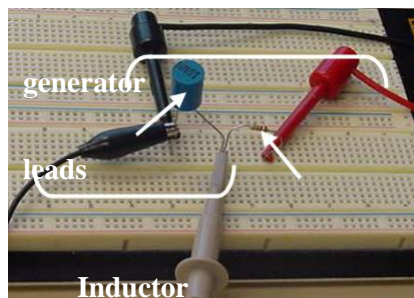

Fig. 11. RL Transient Test Circuit
5.2.1. Select a 10 mH inductor and carefully measure its inductance and resistance on the LC meter. Replace the capacitor with the inductor, leaving signal generator and oscilloscope connected as before (Fig. 11). Check that the signal is still a 5 V pp square wave, with a 2.5 V DC offset, and frequency of 500 Hz.